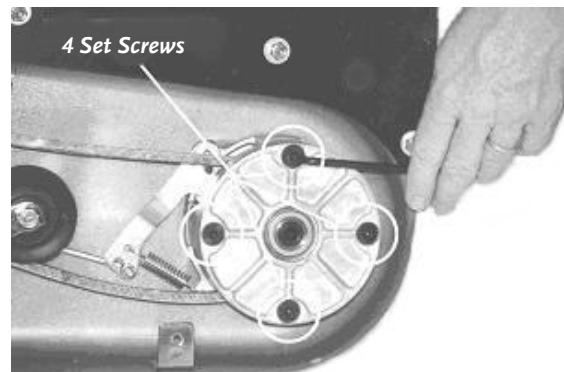
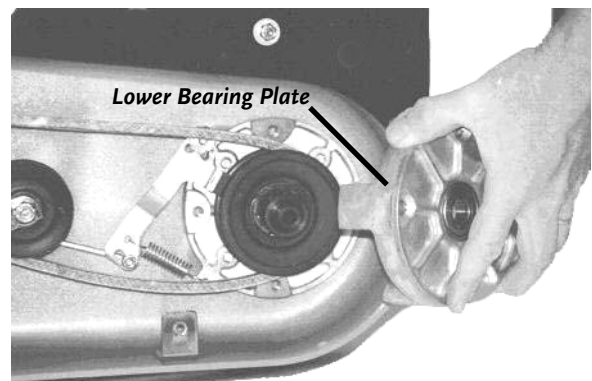

Figure 26
Figure 27
4. Remove the four (4) Allen set screws on the underside of the Lower Bearing Plate (**Figure 26**). The Lower Bearing should come off with the Plate (**Figure 27**).